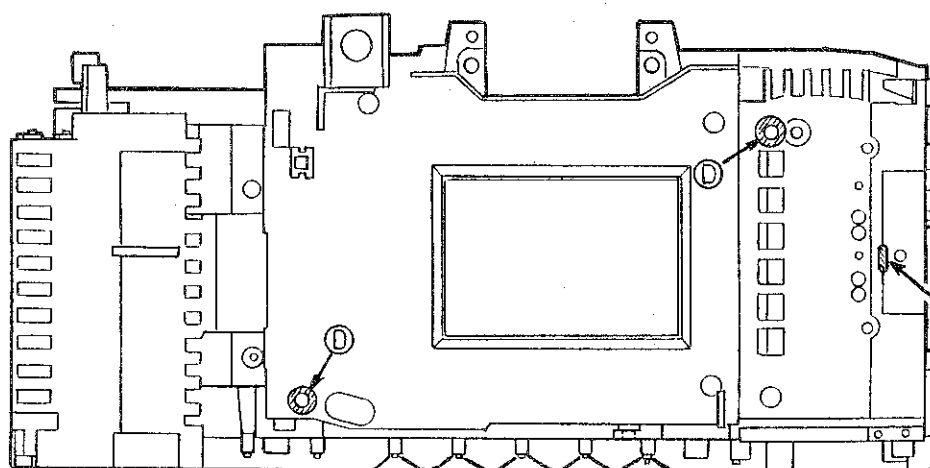

Fig.56
- When the new type Mirror Box Ass'y is to be installed in the new type Body, remove the washers at the points ④. (See Fig.56)